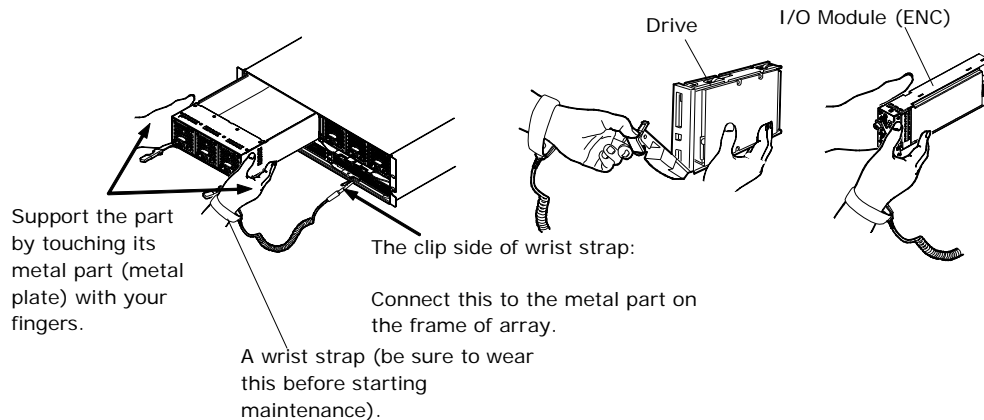

Figure 4-1: Precautions when handling drives
- When you install a disk drive, support its metal frame with one hand and touch the metal frame with the hand that is wearing the wrist strap, as shown in Figure 4-1.